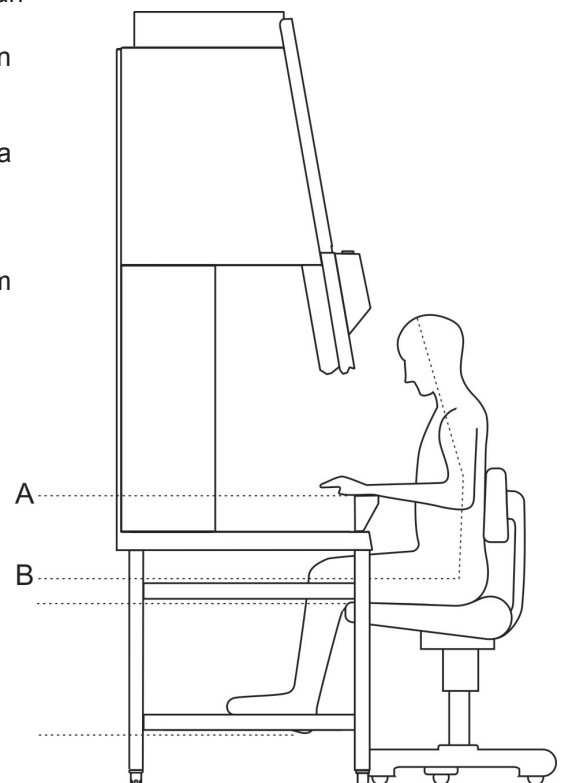

Fig. 17
**Fig. 17:** To prevent risks to health, a height-adjustable working chair with an adjustable seat back should be used during extended work periods at the safety cabinet.